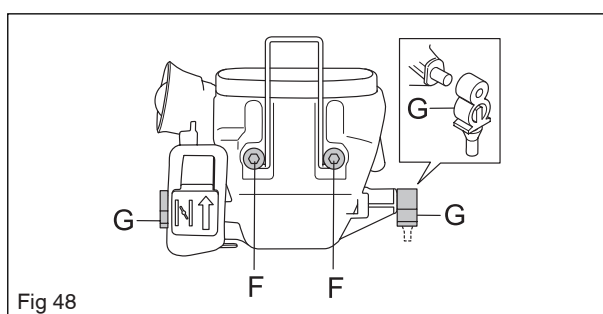

Fig 48
1. Position the guide taps on the air filter holder in the rubber grommets, G. See figure 48.
5. Hook it on the left side and then the right side of the carburettor in the rubber mounting. Then screw the carburettor in place. See figure 48.